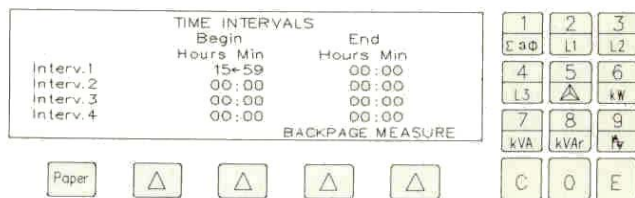

Fig. 3.30
- Press [1] with the options menu on the display for access to the time band page. which is shown in Fig. 3.30